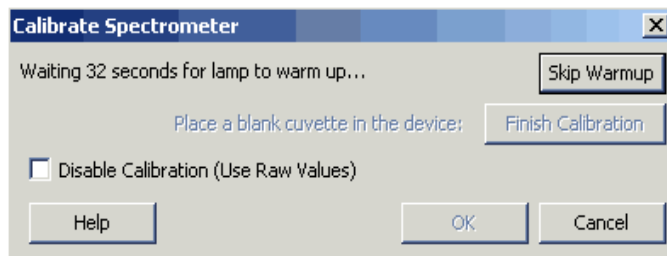

Figure 2. Calibration stores a reference spectrum.
The Experiment: We will determine the reaction rates for the hydration of propionaldehyde. The temperature jump will be affected by changing the cooling water flowing through a jacketed cuvette (see Figure 2). This T-jump method is quite slow, compared to electric discharge or laser methods, and can only be used with relatively slow reactions. This experiment will serve to demonstrate the technique while avoiding costly and complicated special apparatuses.
A diagram of the water bath set-up is shown in Figure 2. The warm bath should be regulated at 15°C. To verify that the bath is regulating, the heater light should be blinking. Place some ice in the cold (Neslab) bath; the temperature should be less than 1°C. The clear tubes are the feed lines and the blue tubes are the returns. Leave the temperature valves on off for now.
4. To calibrate the Spectrometer, choose Calibrate → Spectrometer from the Experiment menu. The calibration dialog box will display the message: “Waiting...60 seconds for lamp to warm up.” (see Figure 2) The minimum warm up time is one minute. **NOTE: For best results, allow the spectrometer to warm up for at least five minutes.** Following the instructions in the dialog box to complete the calibration, use a cuvette filled about $\frac{3}{4}$ full with the solvent or buffer for